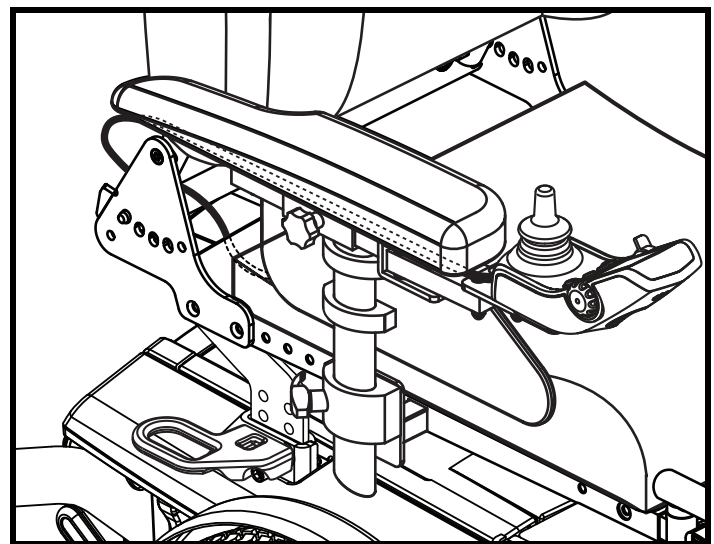

Figure 8. Controller Harness Routing
5. Secure the controller harness to the armrest receiver with wire ties. See figure 8.